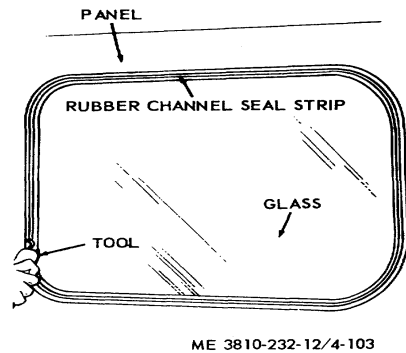

Figure 4-103. Tool inserted under rubber channel seal strip.
(1) Insert a suitable tool under rubber channel seal strip at seam as illustrated in figure 4-103.